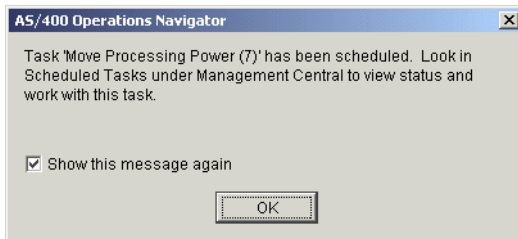

Figure 8-39 AS/400 Operations Navigator confirmation display: Primary to As05b
14. A message is then sent to confirm that the move has been scheduled in Management Central (Figure 8-39).